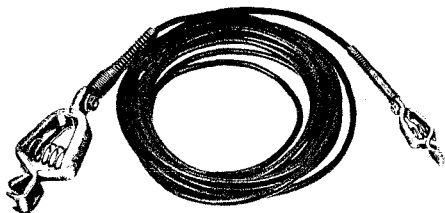

Fig. 9 — B Grounding Cord
- The B Grounding Cord is a 15-foot, 18 AWG, Single conductor cord with clips at both ends (See Fig. 9).